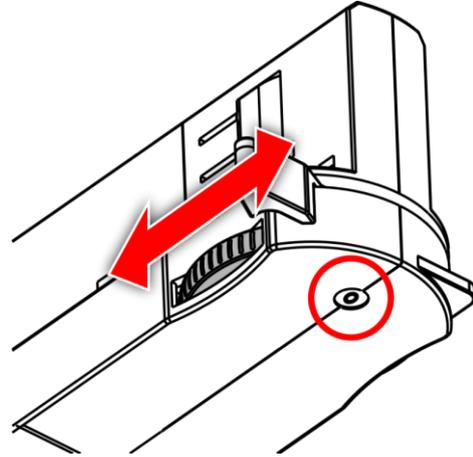

Fig. 10
- 03) Set the **circuit selector (03)** in OFF position (0), as shown in Fig. 10.